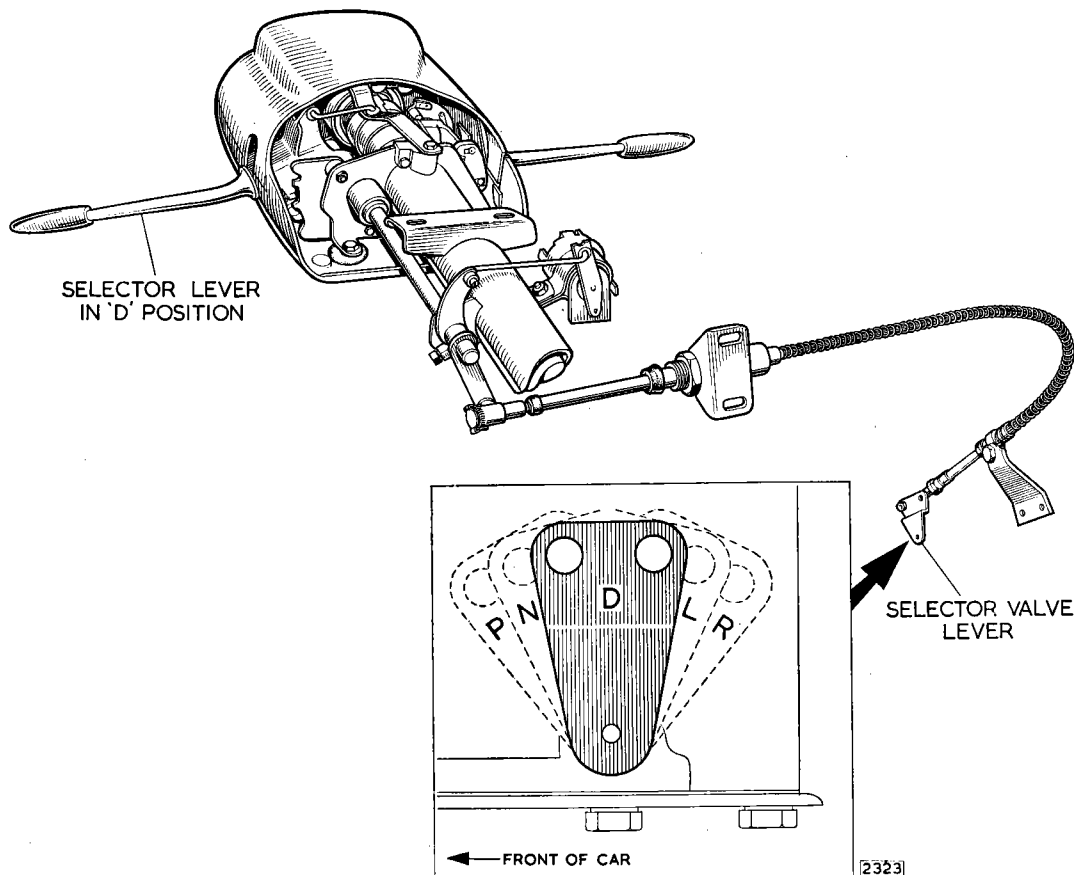

Fig. 5. Adjustment of the manual selector cable
1. Place the selector valve lever in the D position, that is, the centre of the five positions that can be obtained (see inset Fig. 5).
3. Measure the distance "A" between the inner and outer cables at the top end as shown in Fig. 5. The dimension "A" on R.H. drive cars should be $4\frac{3}{4}$ " (12.06 cm.) and L.H. drive cars $3\frac{11}{16}$ " (9.36 cm.).